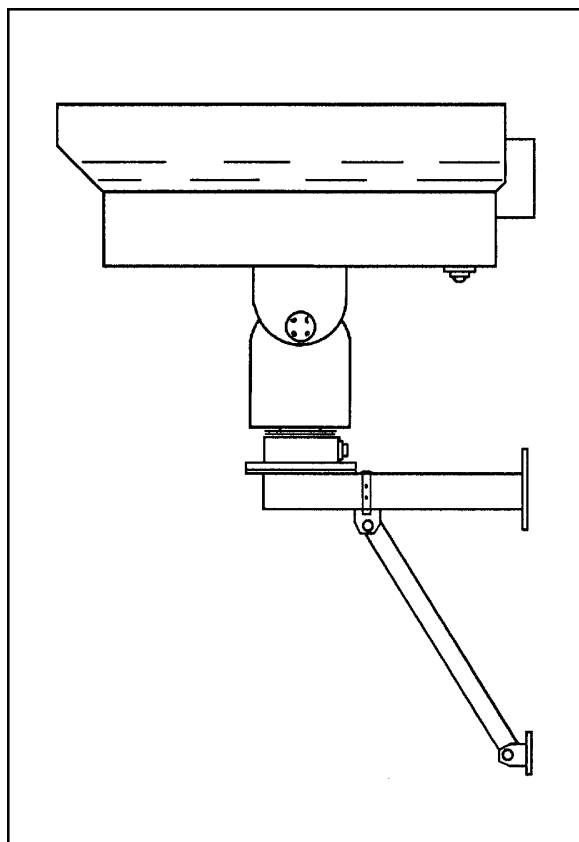

Figure 5 . Enclosure with Pan/Tilt and WM2000 Wall Mount with ST1 Strut
7. Make all necessary electrical connections. Be sure to leave an adequate loop of cables between the enclosure and the pan/tilt, and the enclosure and the rigid mount to prevent binding and/or strain on the cables (see Figures 5 and 6).